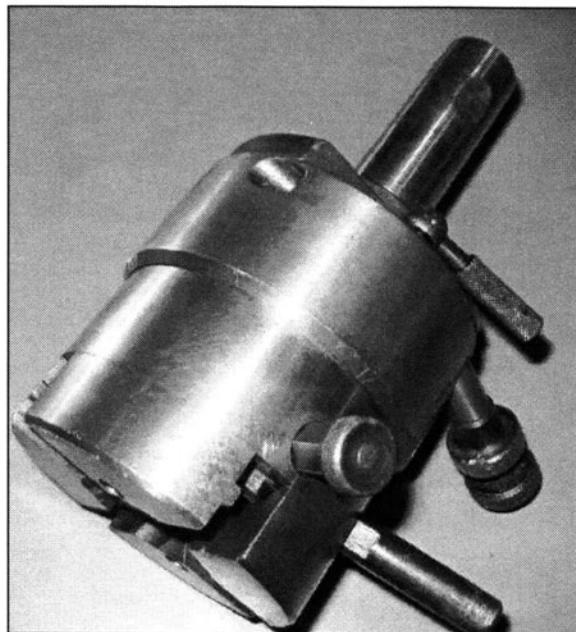

FIGURE 8-4 Geometric die heads can consistently produce accurate, high quality threads.
7. Use a geometric die head in a lathe for accurately cutting external threads on small parts. (See Fig. 8-4)